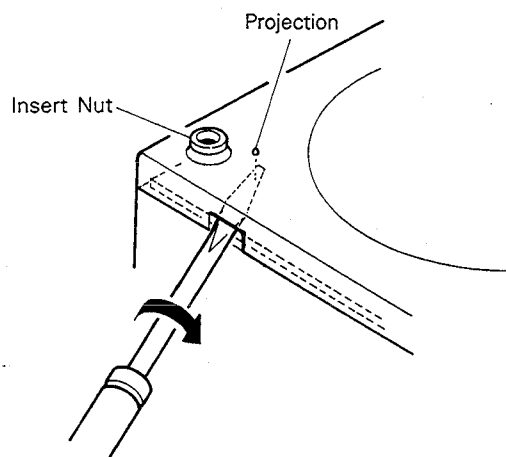

Fig. 7-30
4. Insert an ordinary (—) screwdriver into the left hole shown in Fig. 7-30 and set its edge just under the small projection. Keeping this position, slowly turn the screwdriver to push the front panel gently upward with care as described in the above note.